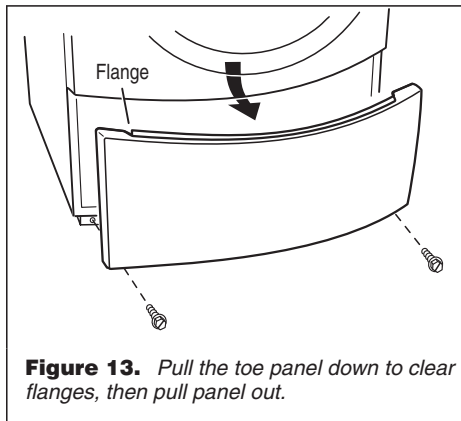

Figure 13. Pull the toe panel down to clear flanges, then pull panel out.
- Access the moisture sensor wires by removing the toe panel (figure 13, page 7) and disconnecting the sensor wires from the harness (figure 11). Go to step 8.
3. Slide the toe panel down, then pull it out from the bottom. See figure 13.